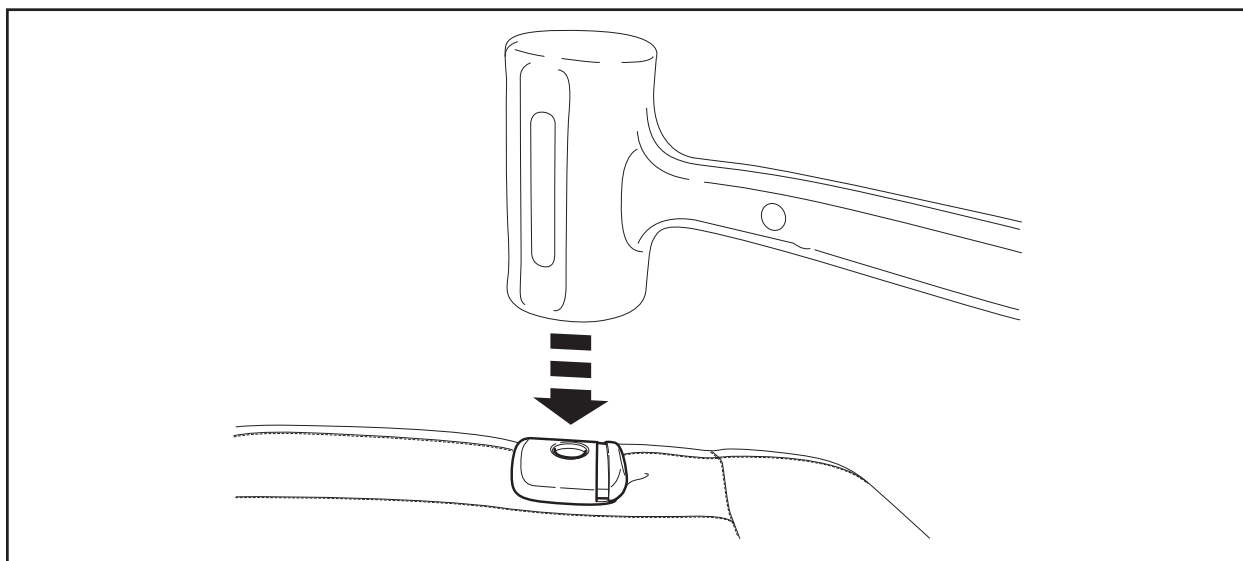

FIGURE 21
39. Using a non-marring mallet, such as a plastic dead blow or equivalent, seat the **new** head restraint guide sleeves. Strike the top of the head restraint guide sleeve with moderate force until the sleeve is snapped into place on the **new** backrest frame. See Figure 21.